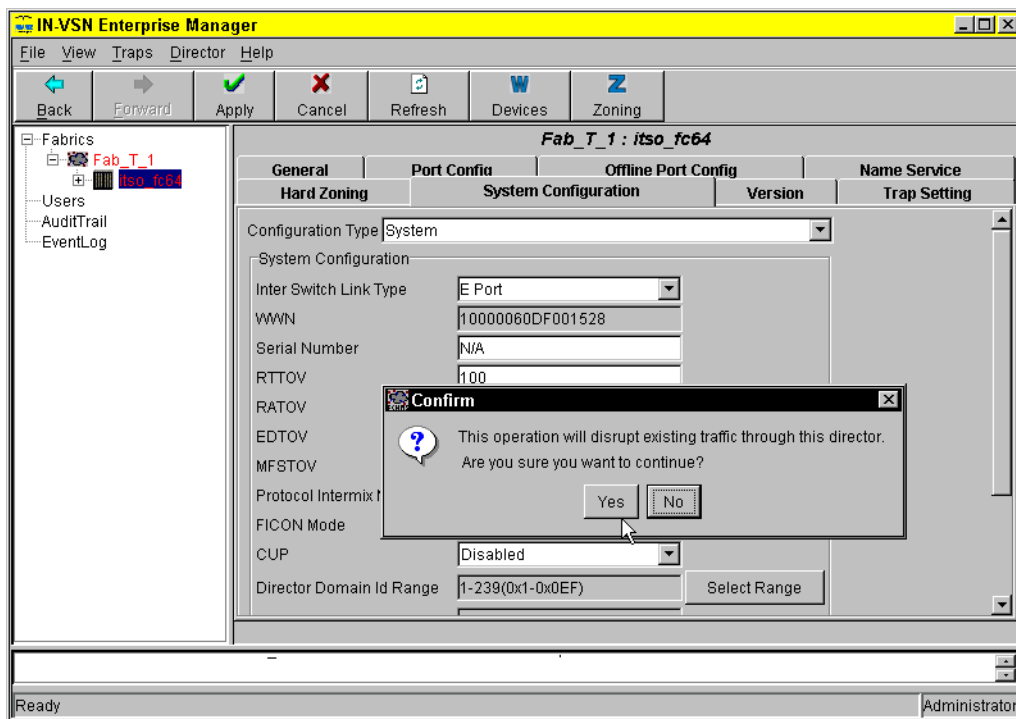

Figure A-29 IN-VSN: ISL mode configuration confirmation window
4. Click **Apply** to validate the changes. IN-VSN prompts for a confirmation as shown in Figure A-29, as the process will be disruptive for the traffic.